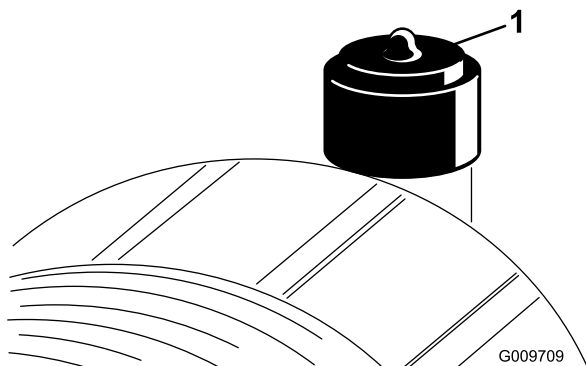

Figure 27
Service the air-cleaner filter only when the service indicator (Figure 27) requires it. Changing the air filter before it is necessary only increases the chance of dirt entering the engine when the filter is removed.
8. Reset the indicator (Figure 27) if it shows red.